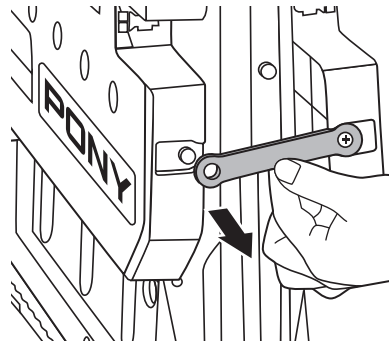

Figure 2
3. Unlock the safety straps on both sides. (Figure 2)